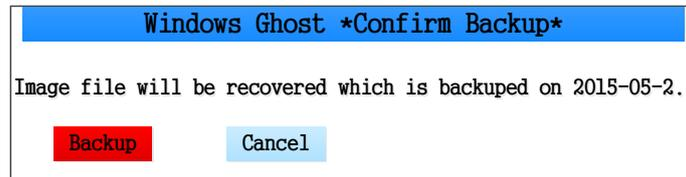

Fig. 5-8 Re-backup confirmation
- 4) A re-backup confirmation dialog box will appear, as shown in Fig. 5-8.